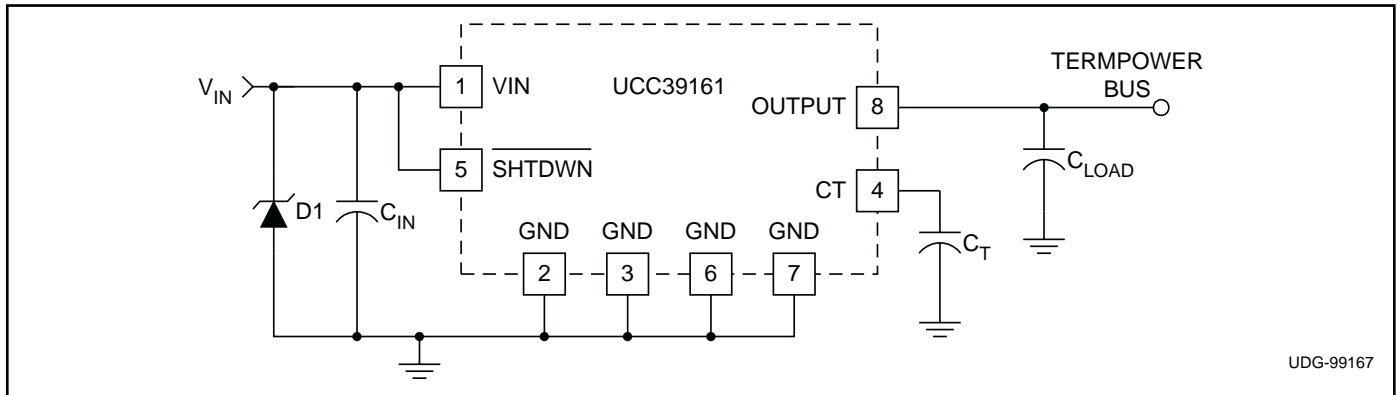

Figure 1. Typical application.
- Decoupling VIN with a capacitor, CIN (refer to Fig. 1), located close to the VIN pin. This capacitor is typically less than 1µF to limit the inrush current.
- Clamping the voltage at VIN below 6V with a Zener diode, D1 (refer to Fig. 1), located close to the VIN pin.